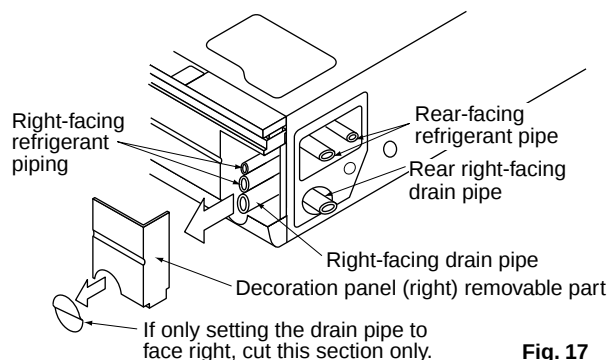
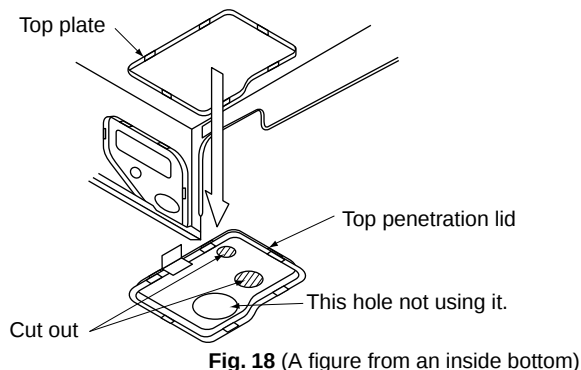

Fig. 17
Fig. 18 (A figure from an inside bottom)
Remove the rear metal plate for pipe. (Refer to Fig. 17)
(2) For piping facing up.
- Removing the top penetration lid and use the L-shaped branch pipe kit sold separately to set the pipe. (Refer to Fig. 18, 19)
(3) For piping facing right.
- Cut out a slit hole on the decoration panel (right) and set the pipe. (Refer to Fig. 17)
- When piping is complete, cut the removed penetration lid into the shape of the pipe using scissors and attach. As when before removing the top penetration lid, secure the lead lines for the swing motor and thermistor by passing them through the clamp section on the top penetration lid. (Refer to Fig. 18, 20)